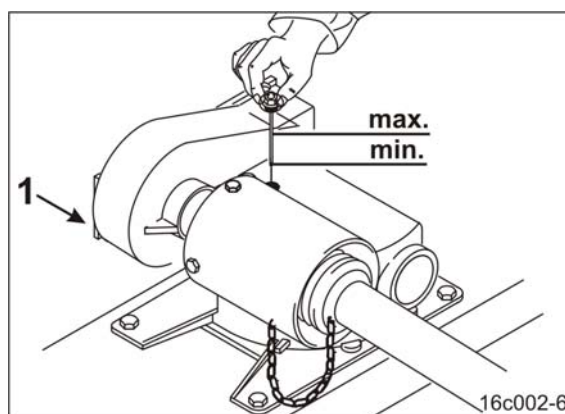

Fig. 177
2. Unscrew the oil drain screw (Fig. 177/1).